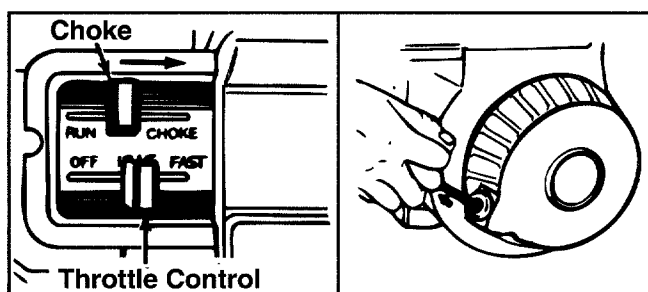

FIGURE 5.
The throttle control is located on the right side of the engine. It controls the engine speed and stops the engine. See figure 5.
Used to manually start the engine. See figure 5.
2. Place the throttle control lever in FAST position. See figure 5.
1. Move throttle control lever to OFF position. See figure 5.